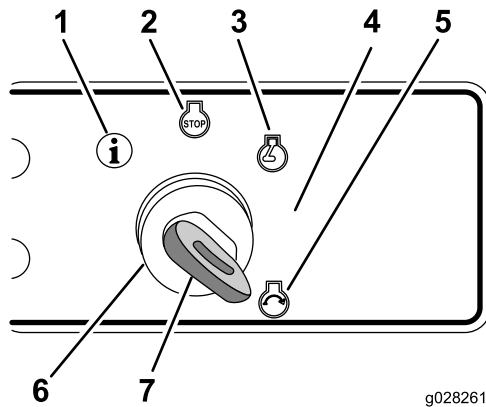

Figure 7
1. Turn the key to the Run position and wait for the voltage that is displayed on the screen to drop and raise back up (Figure 7).
2. Turn and hold the key in between the Run and Start positions for 45 seconds (Figure 7).
5. Turn the key to the Start position (Figure 7).